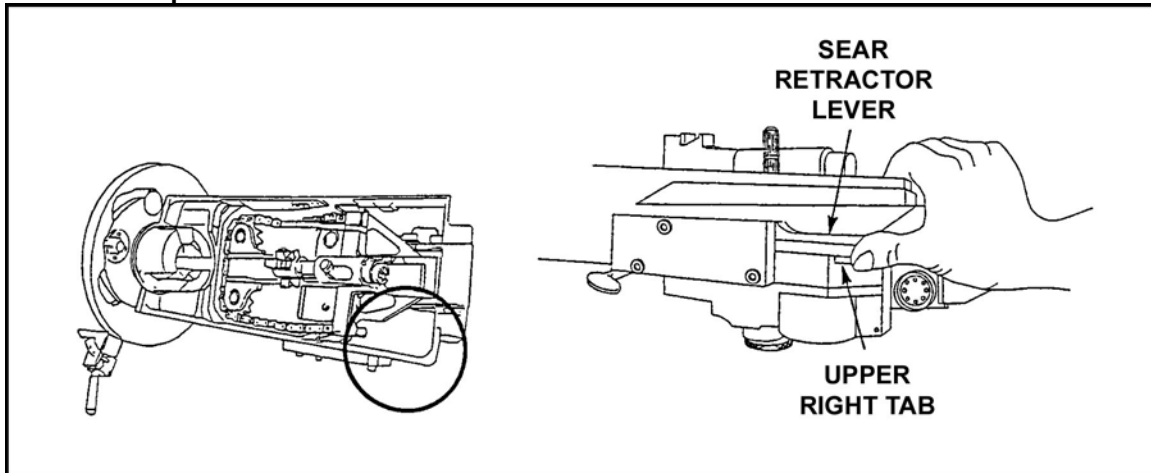

Figure 15. Sear retractor lever.
- (5) If TOW is to be boresight, raise TOW launcher.
- (6) Perform functional checks on the 25mm gun system.
- (a) Ensure the manual sear retractor is disengaged (Figure 15).